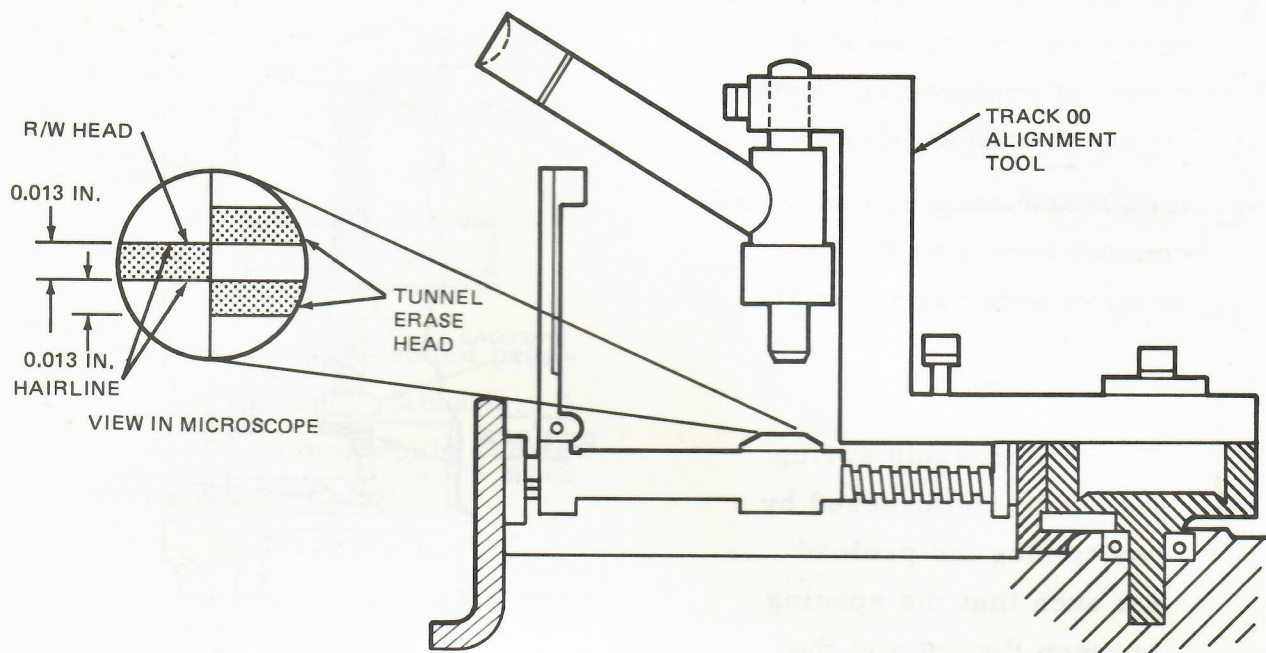

Figure 3-3. Track 00 Alignment Tool, Installed
- c. Remove disk drive latching handle by loosening two (2) hex socket-head screws.
- e. Remove four (4) pan-head screws fastening bezel mounting plate to deck assembly.
- j. Install Track 00 Alignment Tool as shown in Figure 3-3.
- k. While viewing read/write head through microscope (see Figure 3-3), verify that read/write and tunnel erase heads are aligned, exactly as shown.
- l. If alignment is required - loosen three (3) hex socket-head screws fastening stepper motor to deck assembly.